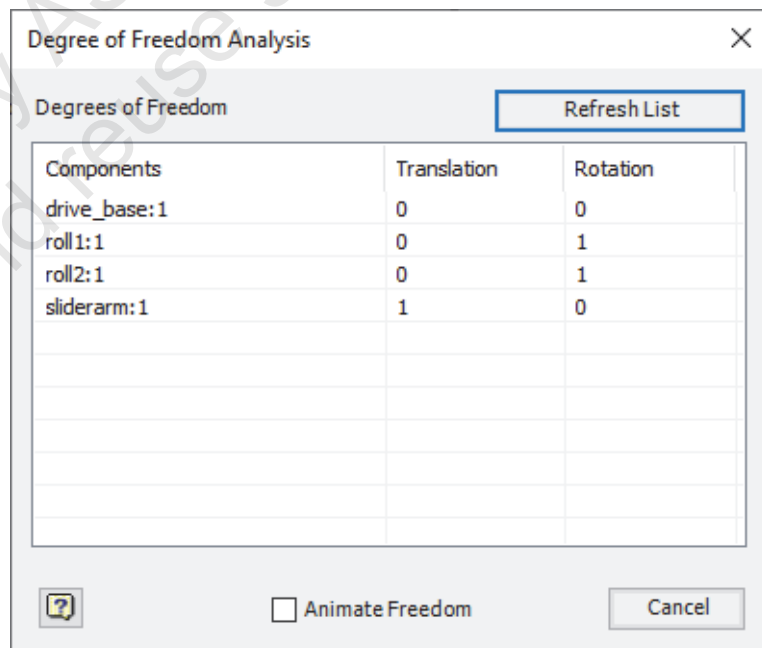

Figure 1–16
6. As an alternative to simply displaying the degrees of freedom for the components, you can run an analysis. In the *Assemble* tab>expanded Productivity panel, click  (Degree of Freedom Analysis). The Degree of Freedom Analysis dialog box opens, as shown in Figure 1–16. The **sliderarm** can translate, and the **roll1** and **roll2** components can rotate.